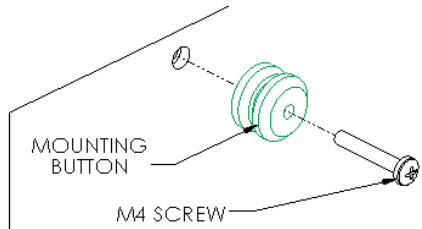
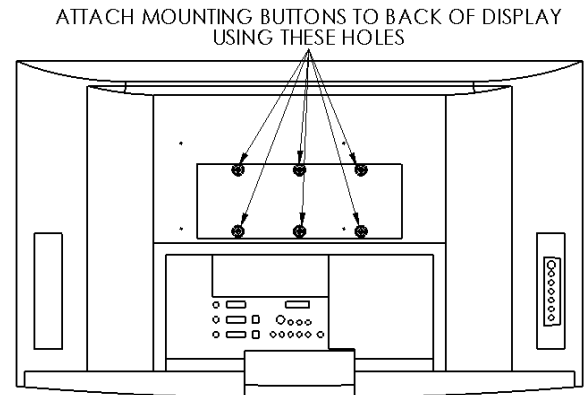

Figure 4
Figure 5
4. Attach mounting buttons to the display using the M4 screws provided (see Figure 4 and Figure 5).